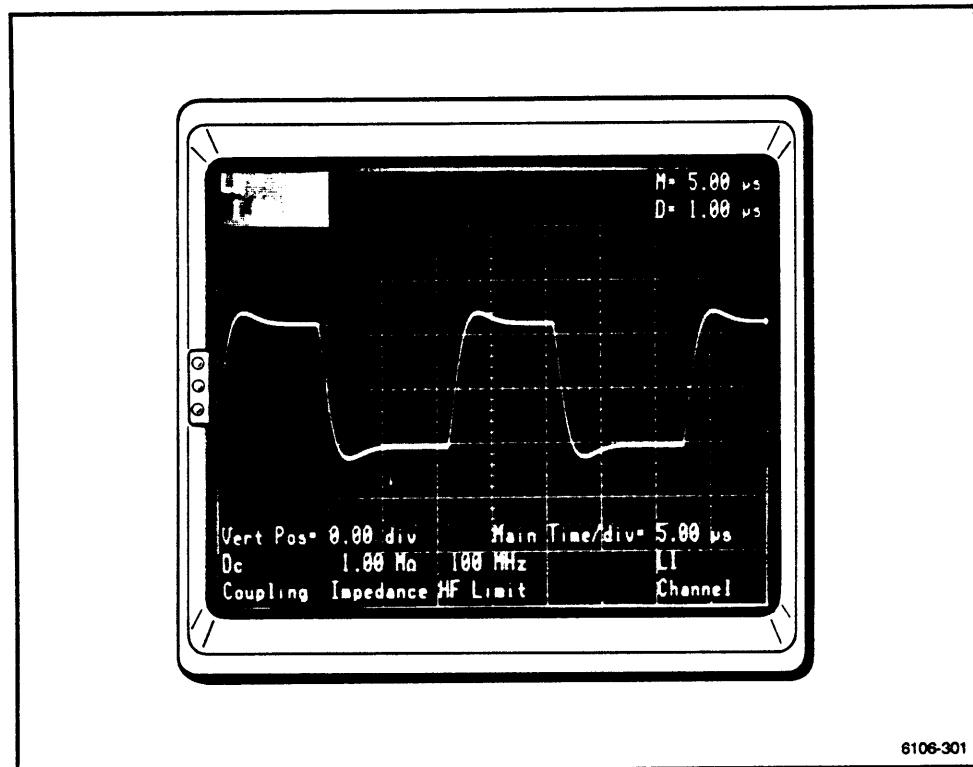

Figure 2-102. Input signal displayed.
1. Connect the signal to the input connector, set the display on/off button to on, and press the AUTOSET button. (See Fig. 2-102.)